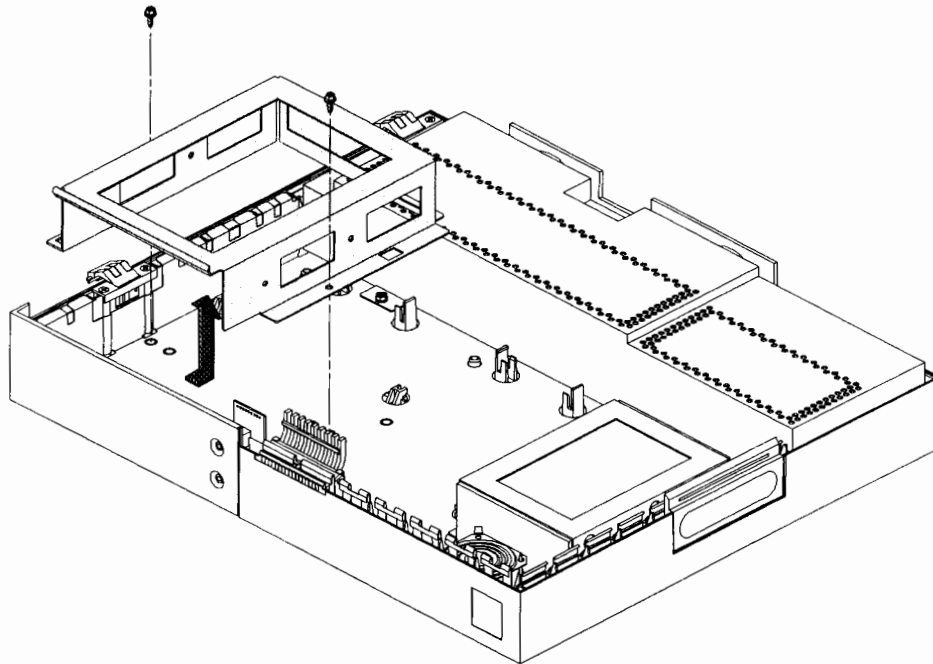

Figure B-26. Removing the Empty Bracket
- 6.** Remove the empty bracket from the system chassis by removing the two screws, sliding the bracket back, and lifting it up, as shown in Figure B-26.